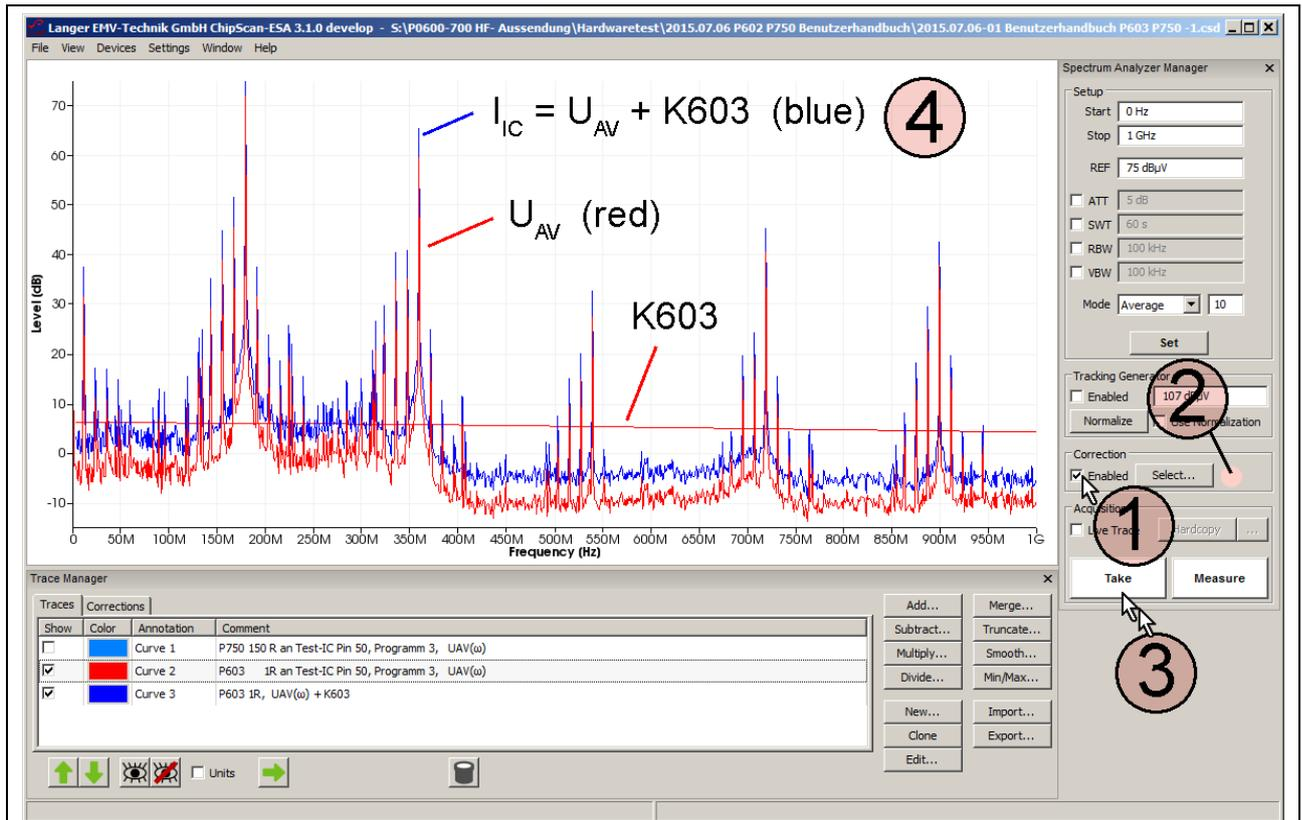

Figure 45: Measurement with the P603 RF current probe head using the correction curve K603.
The correction curve K603 is loaded to the "Corrections Selector" if the **P603** probe is used for the measurement. Activate the "Enabled" box in the "Correction" field in the "Spectrum Analyzer Manager" with the mouse cursor ① (**Figure 45**). The field ② flashes if the correction is active **Figure 45**. Click "Take" or "Measure" (mouse cursor ③ **Figure 45**) to transfer the current measurement curve ④  $I_{IC}(\omega)$  from the spectrum analyzer to the PC.